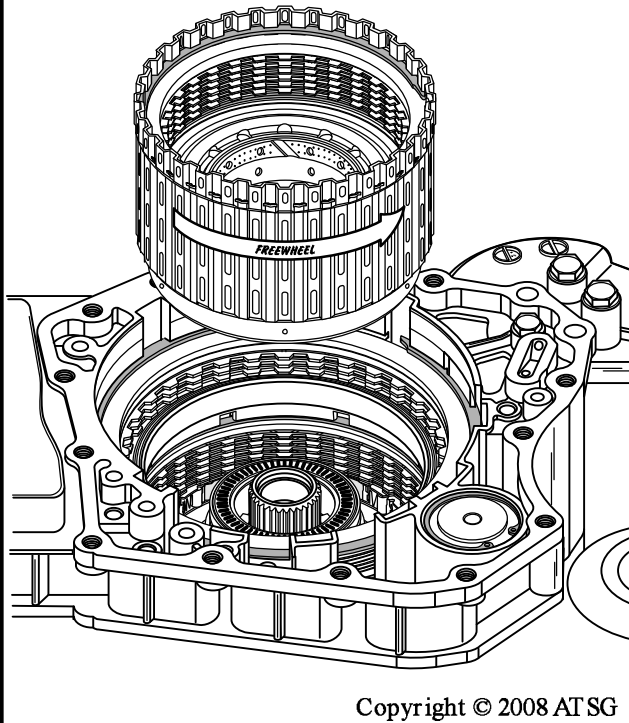

Figure 198
22. After installation, check the rotation of the low clutch housing, as shown in Figure 198.
**Note: Low clutch housings should freewheel counter-clockwise and lock clockwise, as shown in Figure 198.**